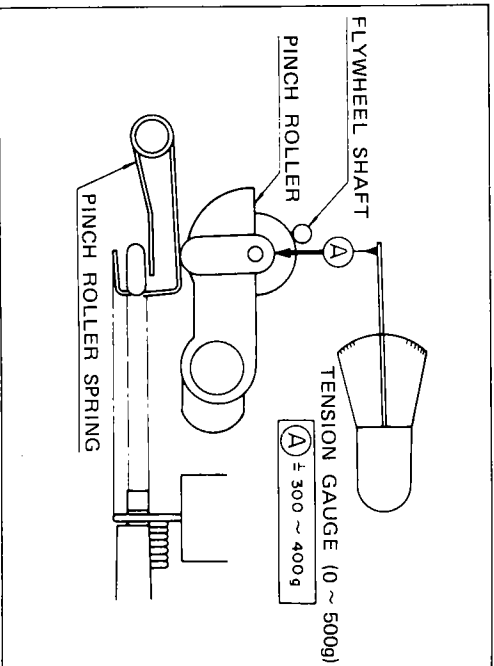

Figure 28
- (Refer to Figure 28)
2. Push the point (A) with a tension gauge (0 gr. to 500 gr.) to make the pinch roller apart from the flywheel shaft. Then, check that the tension gauge will read 300 gr. to 400 gr. When the pinch roller stops to rotate.